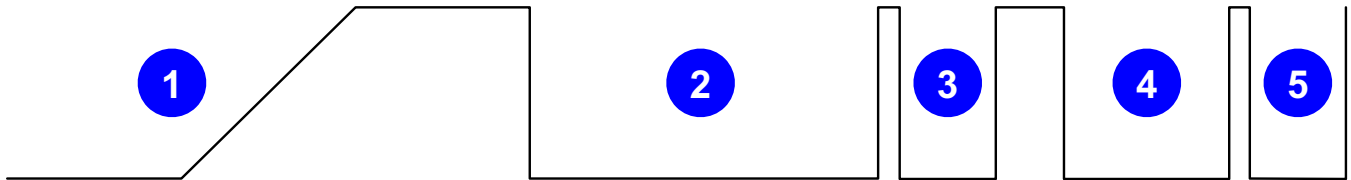

Figure 21. Power Up Best Practice
Figure 21 illustrates the best practice for dealing with initial power on ramps, shown as (1) in the figure, that may be long in duration. The host should issue a “hard” reset, (2), of > 5 ms, which resets the device and generate a presence delay and presence pulse, (3). After that, a “soft” reset of approximately 480 μ s can be applied, (4), which also generates a high presence delay and low presence pulse, (5).